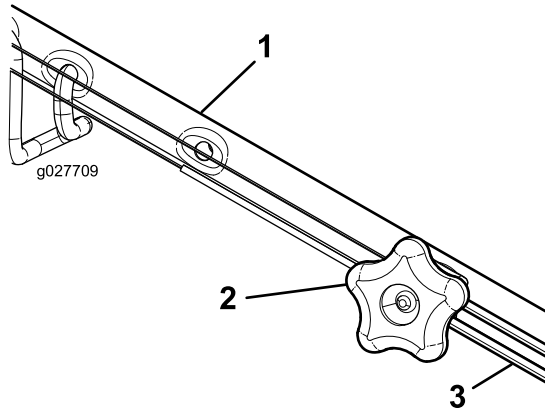

Figure 26
1. Turn the adjustment knob counterclockwise to loosen the cable adjustment (Figure 26).
2. Adjust the tension on the cable (Figure 26) by pulling it back or pushing it forward and holding that position.